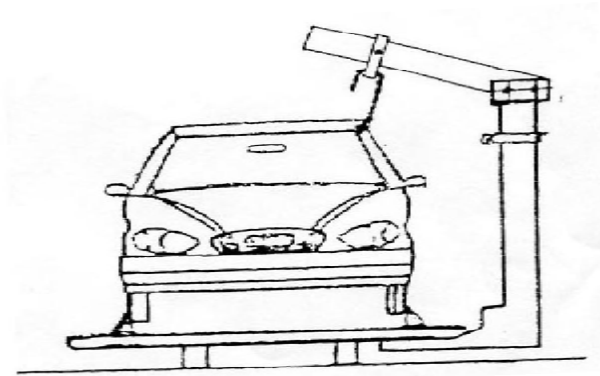

Fig. 14 Pulling the Top Upward
- I When the top of the vehicle body needs to be pulled upward, use the hanging bar as shown in Fig. 14.